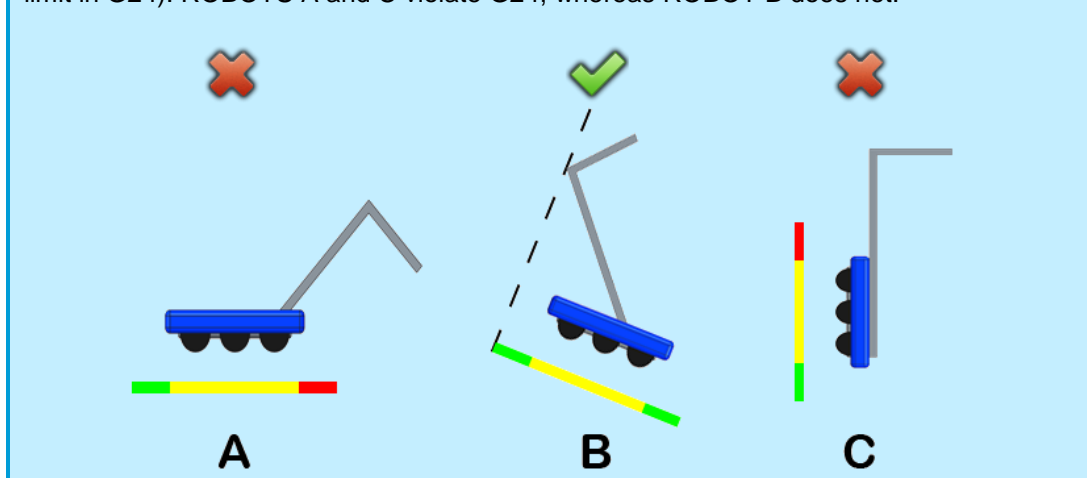

Figure 8-2 Examples of G24 compliance and non-compliance.
- G24. Don't overextend yourself.** ROBOTS may not extend more than 30 in (~76 cm). beyond their FRAME PERIMETER (see Figure 8-2).
Examples of compliance and non-compliance of G24 are shown in Figure 8-2.